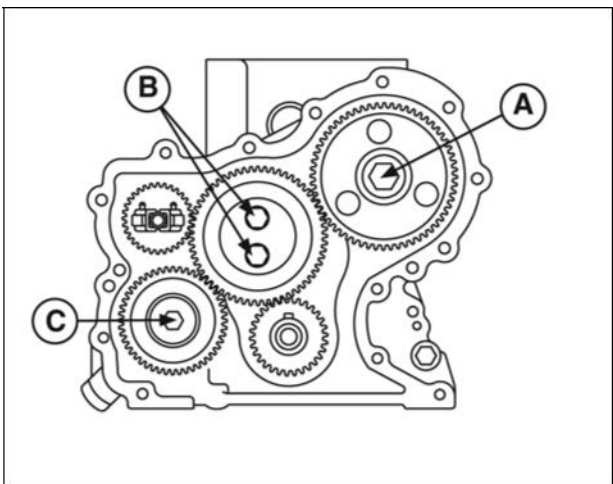

Figure 20
9. Torque screws to values listed in Section 14 - Engine Specifications. Camshaft gear (**A**, Figure 20), idler gear (**B**), and oil pump gear (**C**).